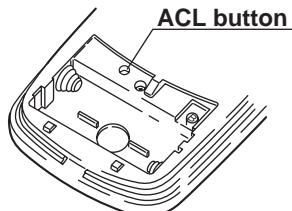

Fig. 9
When the tab is removed, the address is automatically set to B. (Fig. 9)
- (2) Insert dry-cell batteries into the second remote controller and press the ACL button. (Fig. 9) Then reattach the cover.